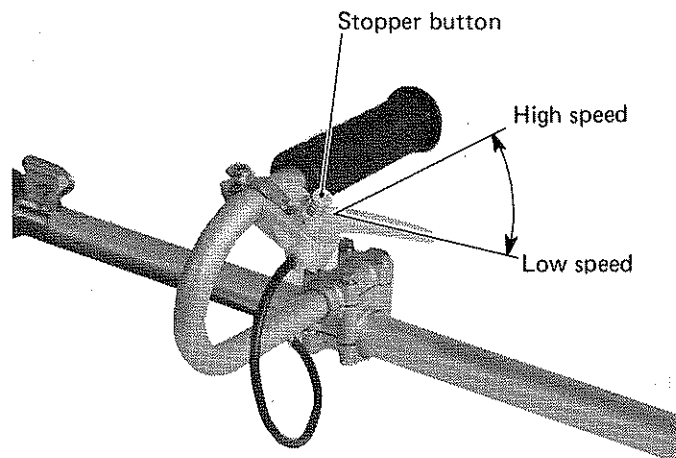

Figure 14
1. Put throttle lever in idling (low-speed) position. Figure 14.